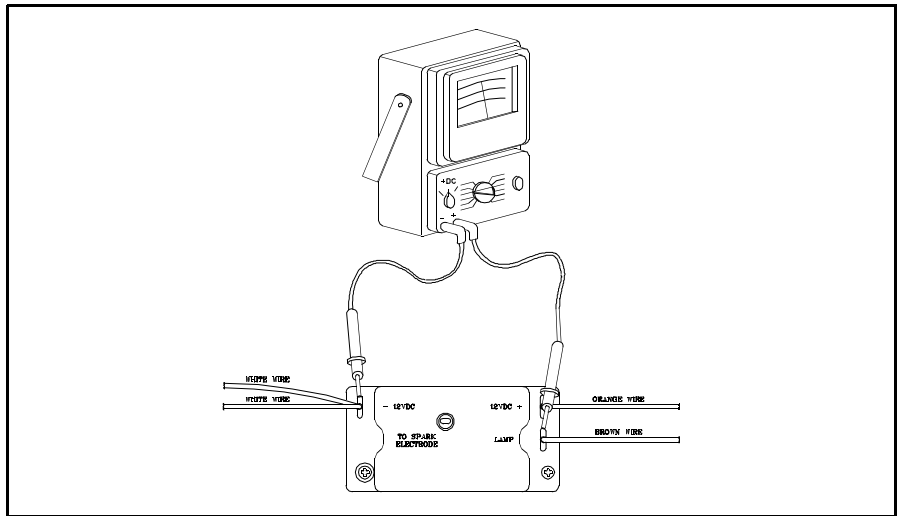

Figure 3.23 Flame Indicator Check at White and Brown Term.
2. Set VOM to + 5 Volts scale. You should read from 1.5 to 2 Volts DC at the terminals of the Relighter shown in Figure 3.23. If not, replace the Relighter.
4. With test probes at points indicated in Figure 3.23, you should read on the 5 Volt DC scale something less than 2 Volts. If voltage is present and the Flame Indicator still does not illuminate, then replace Flame Indicator.